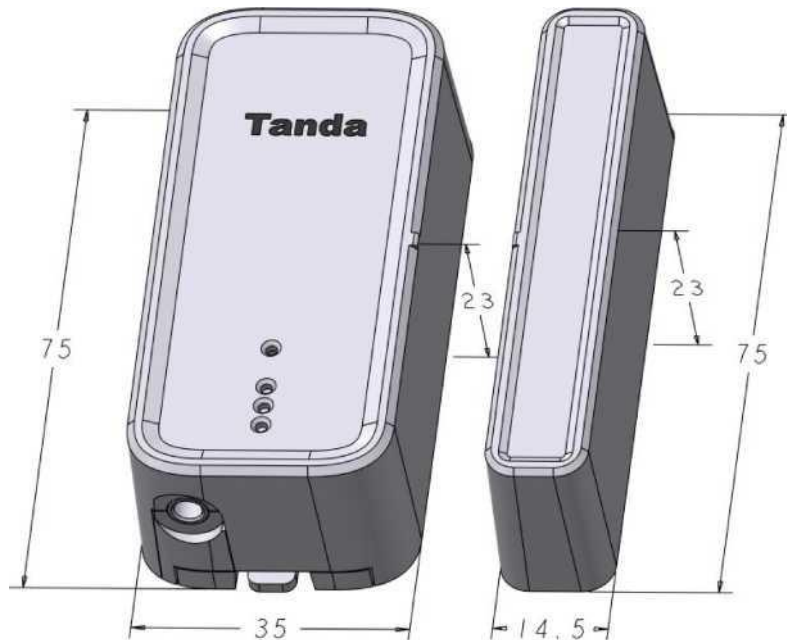

Fig.1 Diagram of TW3207 (Foslink) of outline dimension and installation dimension
1. Module outline dimension and installation dimension diagram as shown in Fig.1 (Unit: mm)